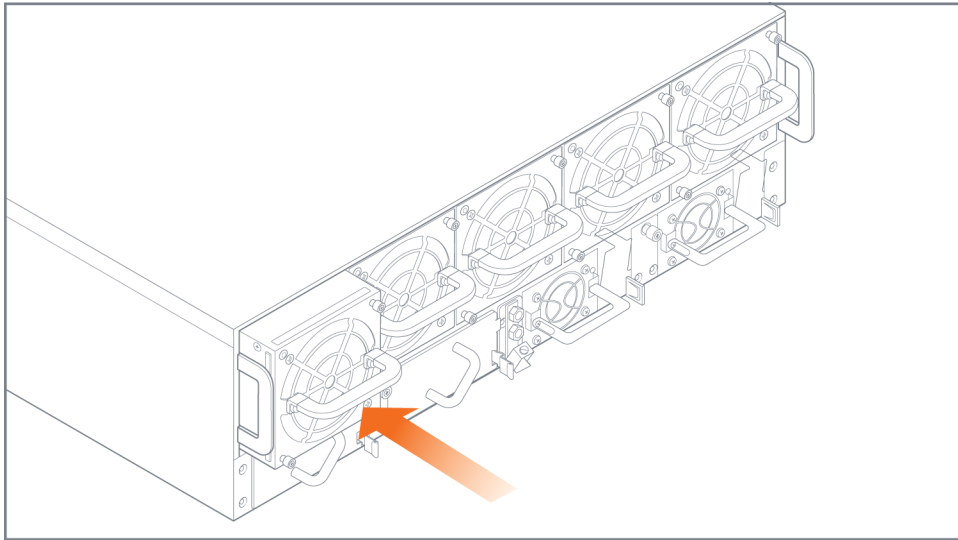

Figure 4-14: Fan Module Insertion
4. Insert the fan modules into the fan tray one at a time as shown in Figure 4-14 on page 83.